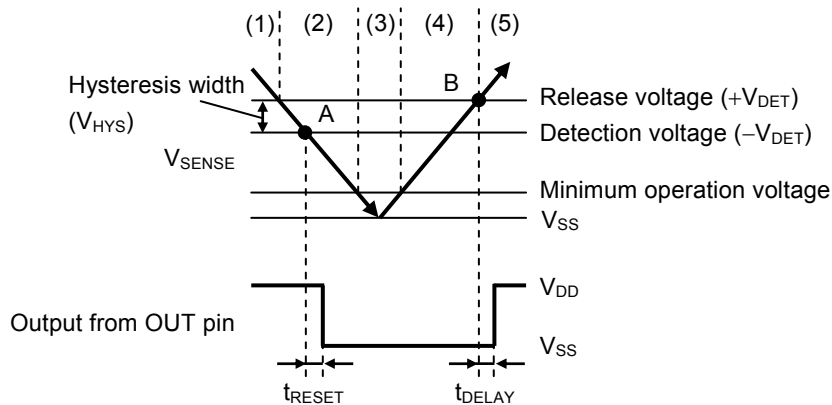

Figure 28 Timing Chart of S-1011 Series E / N Type
The hysteresis width is the voltage difference between the detection voltage and the release voltage (the voltage at point B – the voltage at point A = V_{HYS} in Figure 24 and Figure 28). Setting the hysteresis width between the detection voltage and the release voltage, prevents malfunction caused by noise on the input voltage.
When V_{SENSE} decreases to $-V_{DET}$ or lower (point A in **Figure 28**), the Nch transistor is turned on. And then V_{SS} ("L") is output from the OUT pin after the elapse of the detection delay time (t_{RESET}).
(3) Even if V_{SENSE} further decreases to the IC's minimum operation voltage or lower, the output from the OUT pin is stable when V_{DD} is minimum operation voltage or higher.
(4) Even if V_{SENSE} exceeds $-V_{DET}$, V_{SS} is output when V_{SENSE} is lower than $+V_{DET}$.
(5) When V_{SENSE} increases to $+V_{DET}$ or higher (point B in **Figure 28**), the Nch transistor is turned off. And then V_{DD} is output from the OUT pin after the elapse of the release delay time (t_{DELAY}) when the output is pulled up.